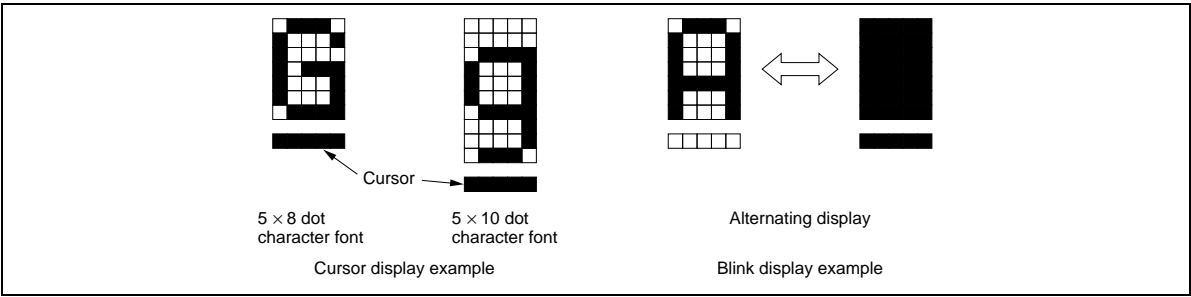

Figure 13 Cursor and Blinking
**C:** The cursor is displayed when C is 1 and not displayed when C is 0. Even if the cursor disappears, the function of I/D or other specifications will not change during display data write. The cursor is displayed using 5 dots in the 8th line for  $5 \times 8$  dot character font selection and in the 11th line for the  $5 \times 10$  dot character font selection (Figure 13).
**B:** The character indicated by the cursor blinks when B is 1 (Figure 13). The blinking is displayed as switching between all blank dots and displayed characters at a speed of 409.6-ms intervals when  $f_{cp}$  or  $f_{osc}$  is 250 kHz. The cursor and blinking can be set to display simultaneously. (The blinking frequency changes according to  $f_{osc}$  or the reciprocal of  $f_{cp}$ . For example, when  $f_{cp}$  is 270 kHz,  $409.6 \times 250/270 = 379.2$  ms.)